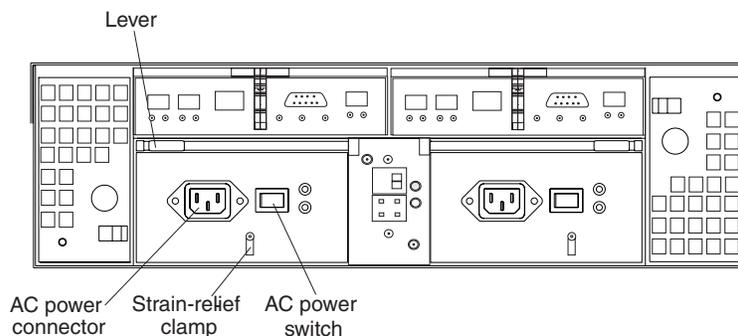

Figure 66. Connecting the power cord to the AC power connector
5. Connect the power cord to the AC power connector. See Figure 66 on page 86.